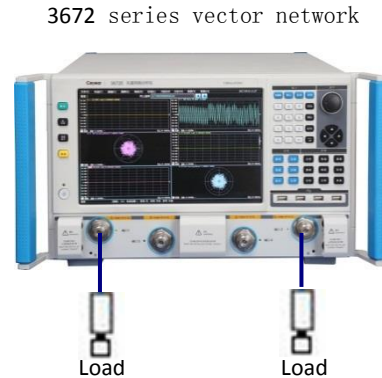

Fig. 11.8 Block Diagram II of Dynamic Range Calibration Test of System
- 9) After through type calibration, as shown in Fig. 11.8, disconnect the tow cables and connect loads to two calibration cable ports.